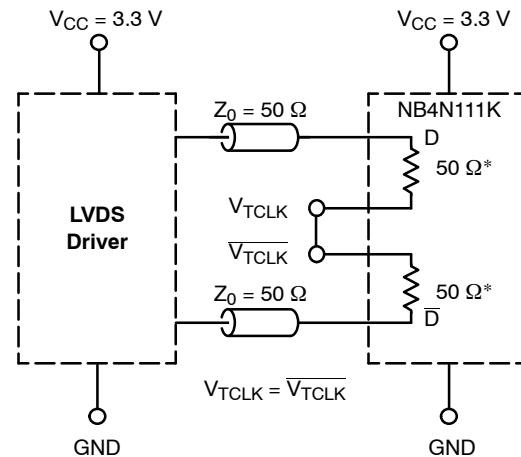

**Figure 9. Typical Termination Configuration for Output Driver and Device Evaluation
5. Input parameters vary 1:1 with V_{CC} . Measurements taken with all outputs loaded 50 Ω to GND, see Figure 9.
7. Measured by forcing V_{INPP} (MIN) from a 50% duty cycle clock source. Measurements taken with all outputs loaded 50Ω to GND, see Figure 9. Typical gain is 20 dB.